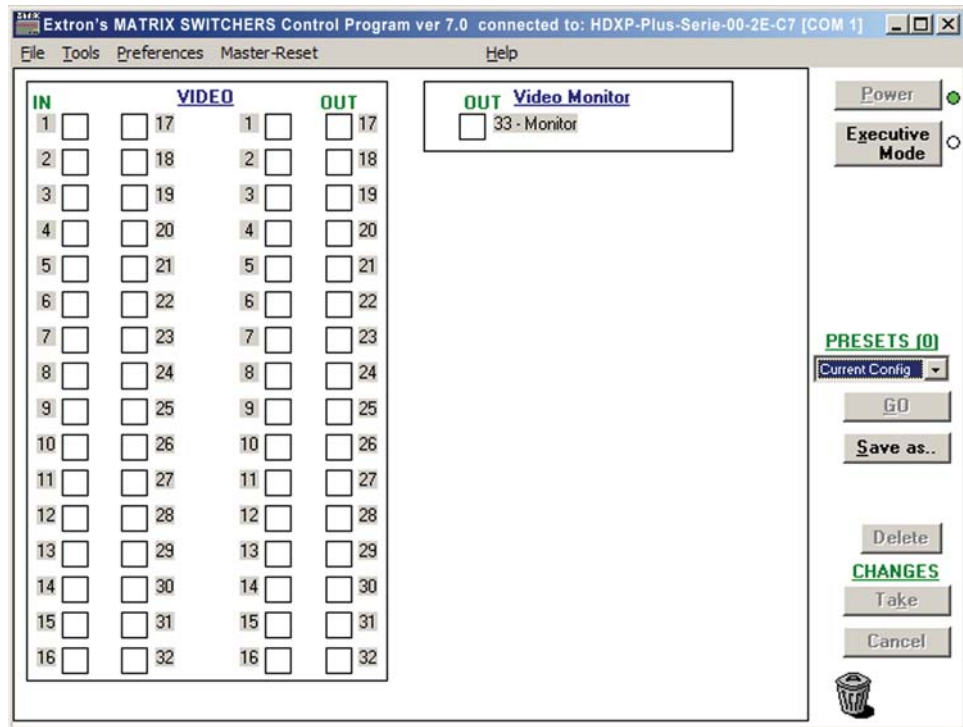

Figure 5-4 — Extron Matrix Switcher Control Program window (no ties or rooms)
4. The Extron Matrix Switcher Control Program window (figures 5-4 and 5-5) appears. The window displays the current configuration of the attached matrix, with numbered boxes representing the video inputs and outputs.